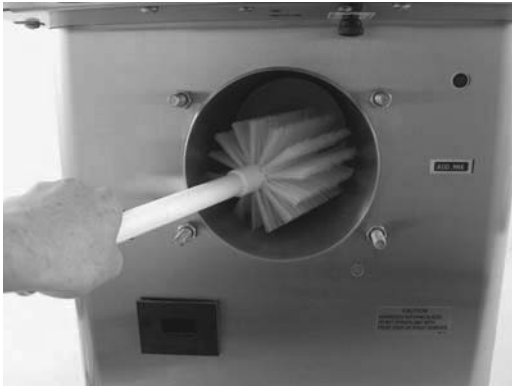

Figure 3-6 Brush Freezing Cylinder
- D. Wash the hopper and freezing cylinder with the 90° to 110°F (32° to 43°C) detergent water and brushes provided (Refer to Figure 3-6).